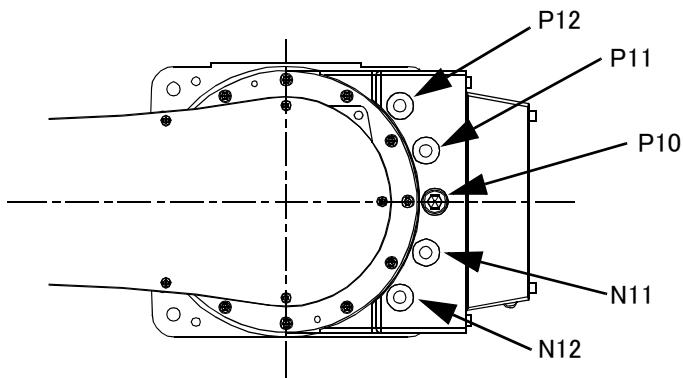

Fig.3-5 : Mechanical stopper position
Note2)Refer to Fig. 3-5 for mechanical stopper position.
2) Install the hexagon socket bolt in the screw hole to the angle to set up referring to Table 3-2 and Fig. 3-5.
About the mechanical stopper position and the relation of bolt size is shown in Fig. 3-5. When the screw hole is covered by the arm, move the No.1 arm slowly by hand.